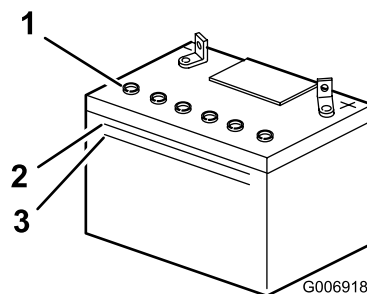

Figure 10
3. Remove the vent caps from the battery (Figure 10).
4. Slowly pour electrolyte into each battery cell until the electrolyte level is up to the upper line on the battery case (Figure 10).
5. Wait 5 to 10 minutes after filling the battery cells, then add electrolyte, if necessary, until the electrolyte level is up to the upper line (Figure 10) on the battery case.